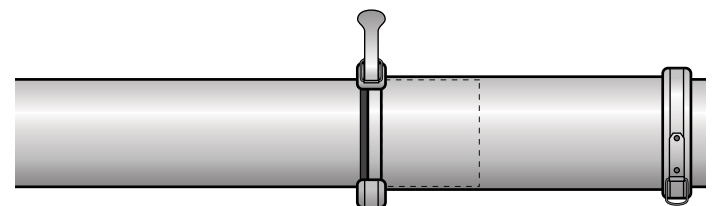

FIG. 25f
- Slide the O-Ring until it is seated against the rolled edge of the sleeve. The O-Ring will form a seal and provide a rolled surface for the Clamp to grab onto [FIG. 25f].